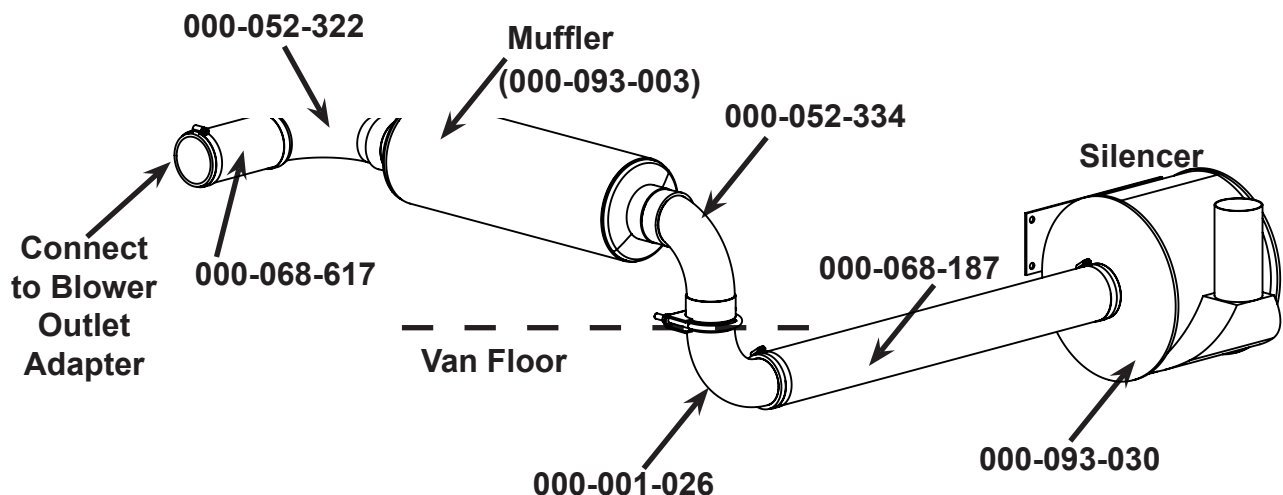

Figure 37. Install Non Salsa Assembly and Silencer
Dry fit the Hush Silencer Assembly behind the driver's seat location. Mark the location on the van's floor where the 3" adapter (P/N 000-001-026) will be inserted through the van floor (see Figure 37).
2. Connect one end of the 3" diameter fitting (P/N 000-052-334) to the outlet of the muffler (see Figure 37).
6. Secure the fitting to the adapter with a muffler clamp (see Figure 37).